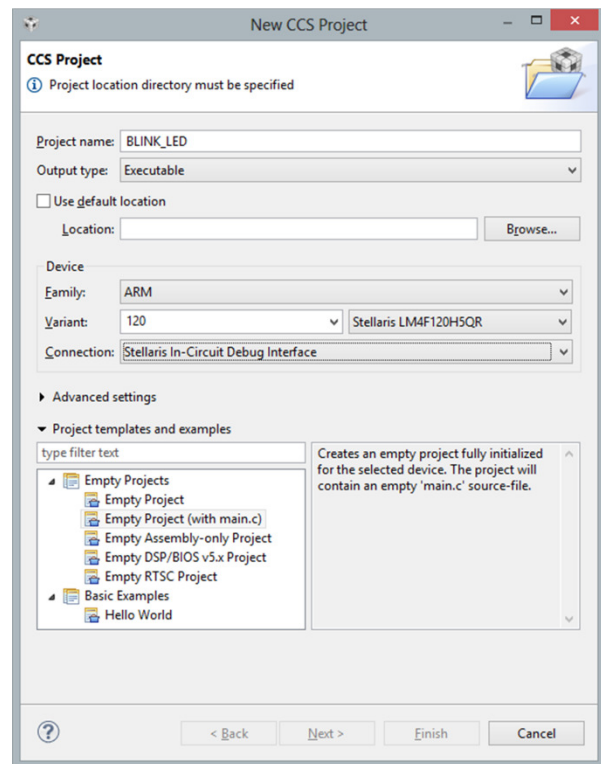

Fig. 1.6. CCS project creation wizard.
3. This opens the CCS project wizard shown in Fig. 1.6. Name your project, for example Blink\_LED.